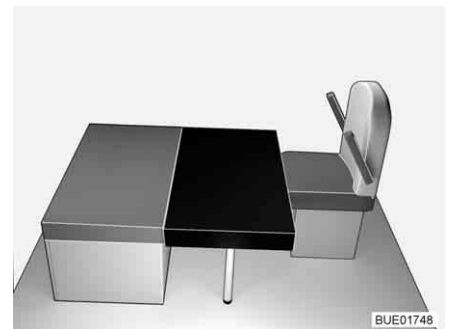

Fig. 125 After conversion
- Place the rectangular additional cushion on the table (in front of the seat cushion of the bench, see Fig. 125). When doing so, the cutout in the additional cushion is located on the frontal supporting wall.